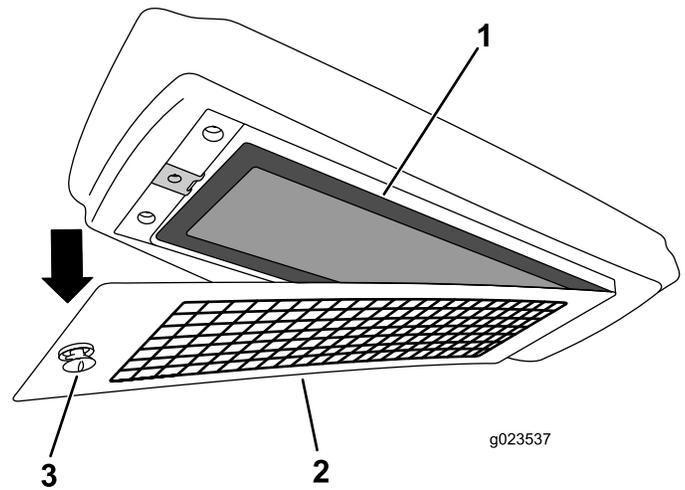

Figure 130
4. Remove the air filter from the housing, and replace the filter element (Figure 130).